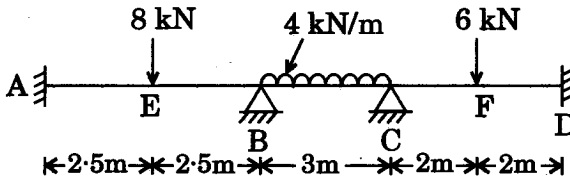

Figure 5
6. A continuous beam ABCD is 12 m long and is loaded as shown in Figure 5. Analyse the beam by slope deflection method, if the following movements takes place simultaneously :